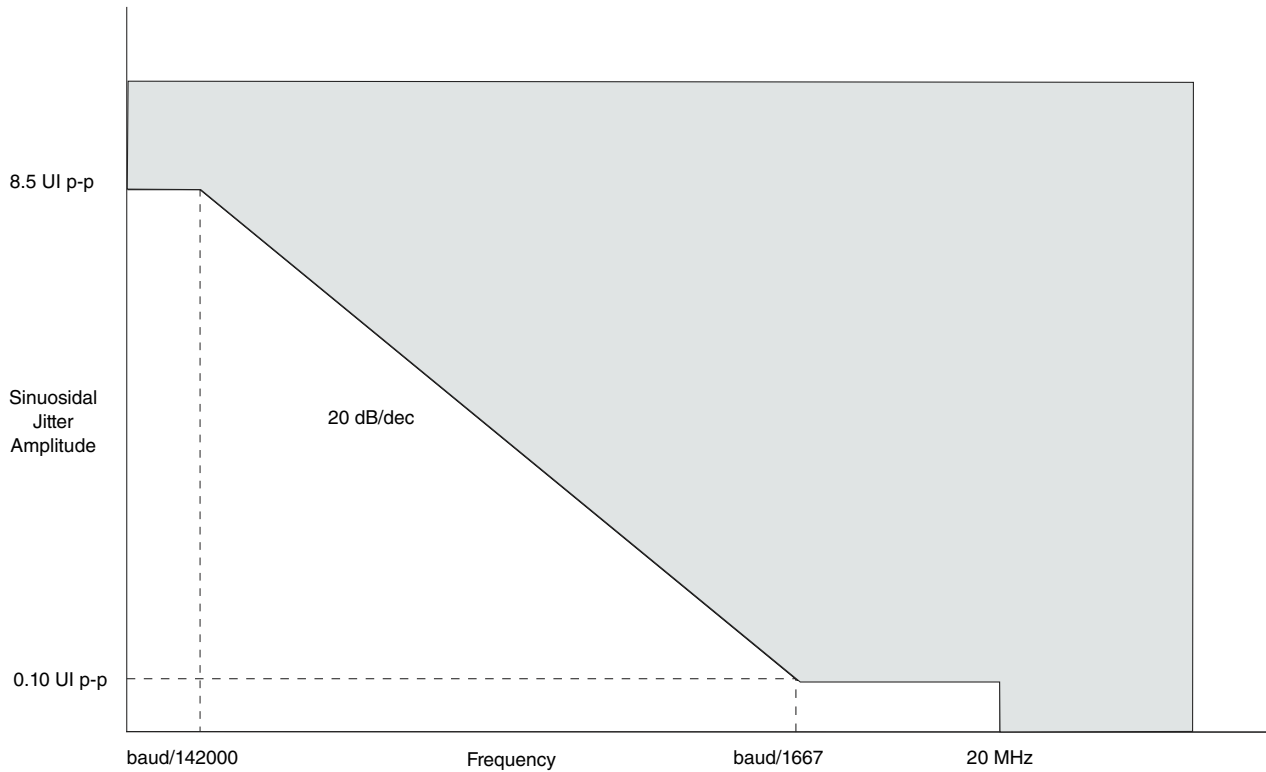

Figure 42. Single-frequency sinusoidal jitter limits, substitute the baud parameter in this figure by either 2.5G or 3.125G.
2. Total jitter is composed of three components: deterministic jitter, random jitter and single frequency sinusoidal jitter. The sinusoidal jitter may have any amplitude and frequency in the unshaded region of Figure 42. The sinusoidal jitter component is included to ensure margin for low-frequency jitter, wander, noise, crosstalk, and other variable system effects.